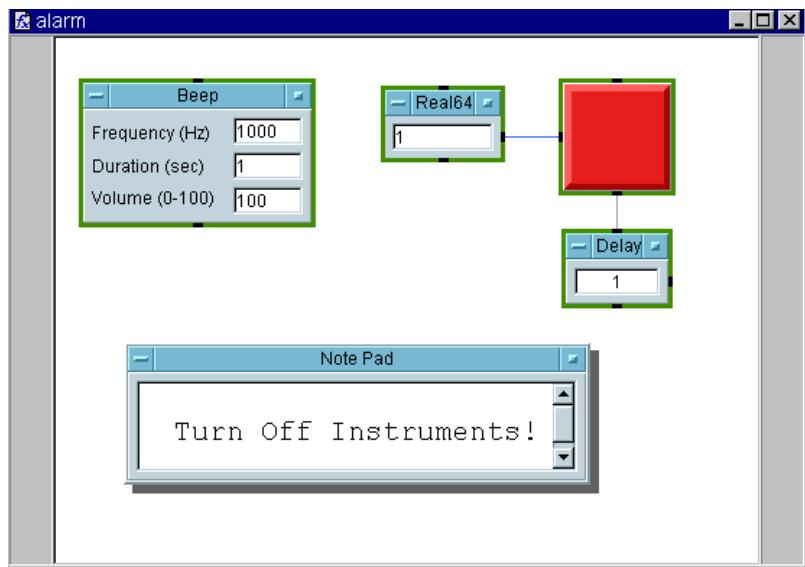

Figure 10-24. The UserFunction alarm (Detail View)
7. Go to the Main window. Click Device \Rightarrow Call, choose Select Function from the Call object menu, and select alarm. Run the program to test it. The detail view of the UserFunction alarm should look like Figure 10-24.